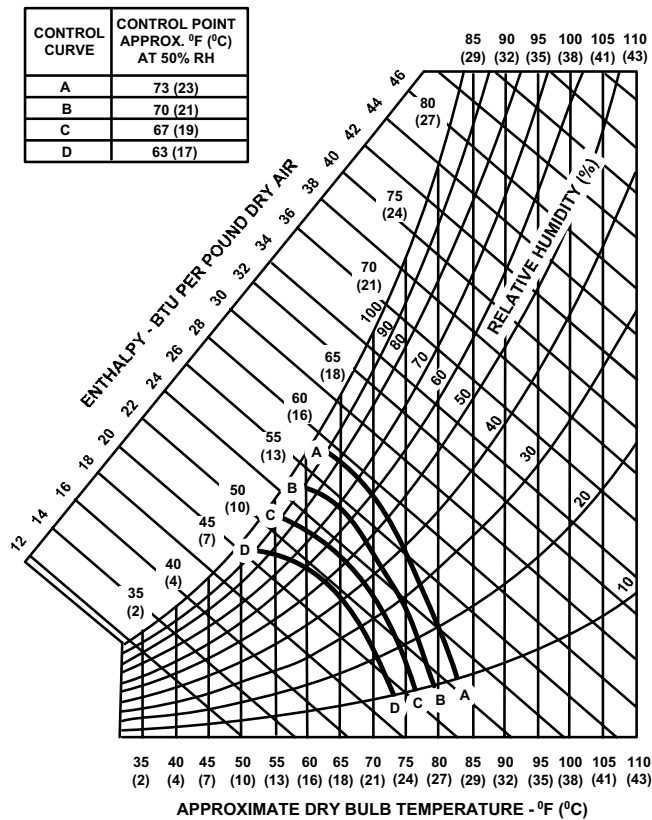

Figure 16: Enthalpy Set Point Chart
- The enthalpy set point may now be set by selecting the desired set point shown in the Enthalpy Set Point Adjustment Figure 16. Adjust as follows: